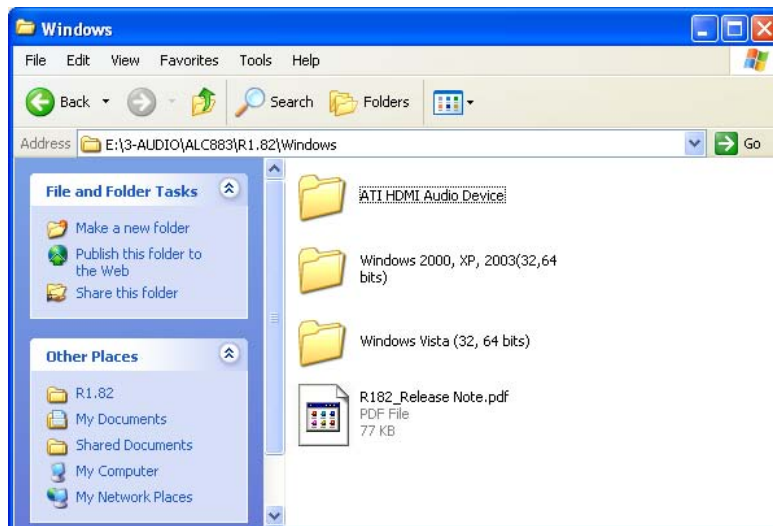

Figure 8-22: Operating System
Step 6: Select the operating system in Figure 8-22.